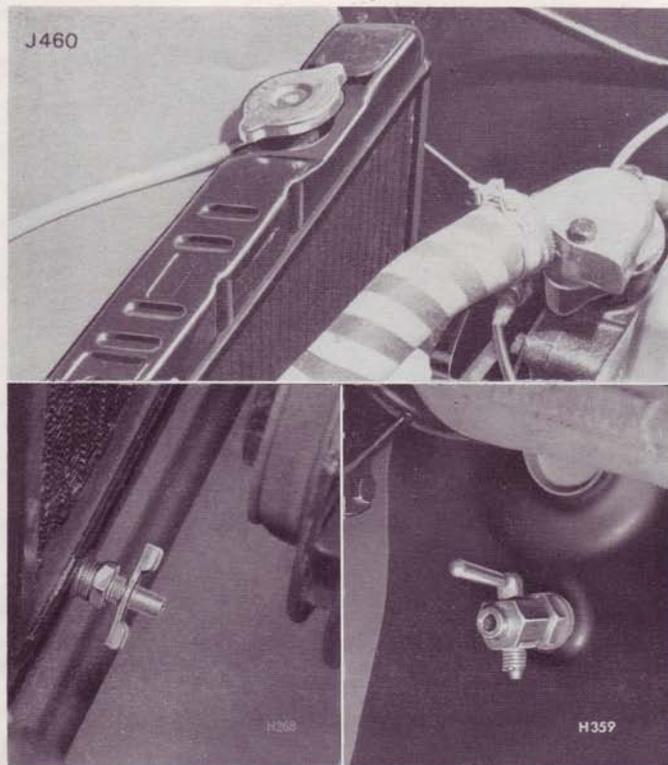

Fig. 37 (left) Fig. 38 (upper) Fig. 39 (right)
To drain the system, move the heat control (23) Fig. 2, to the hot position, remove the radiator filler cap (Fig. 38) and open the tap at the rear right-hand side of the cylinder block (Fig. 39), and the tap at the bottom of the radiator (Fig. 37).